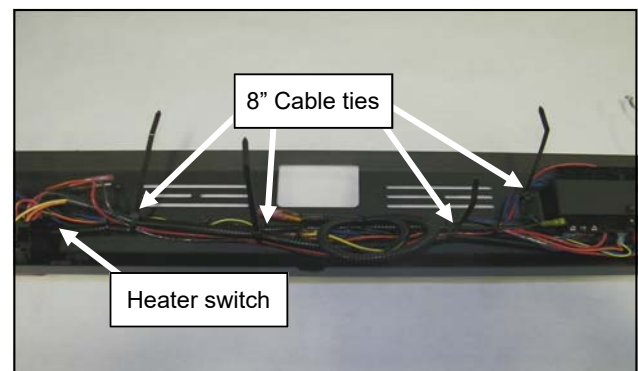

Fig. 3.5
- 3.5 Re-install the fuse block panel to the console with the three #10-32 screws outside the console, and nuts inside. Make sure no wires are pinched under the fuse block bracket. Secure the heater harness to the console wiring with 8" cable ties. See figure 3.5